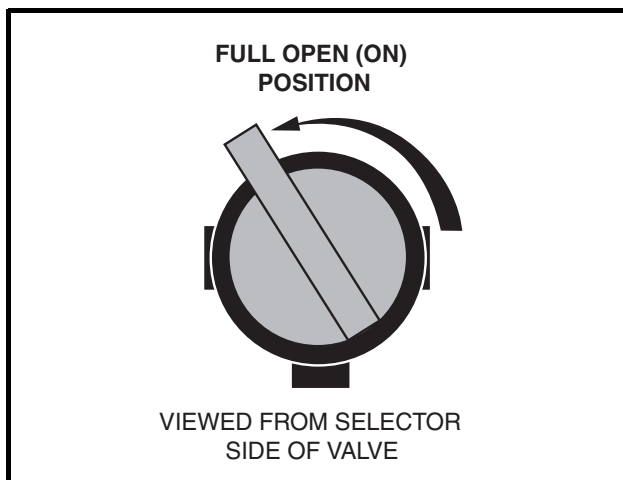
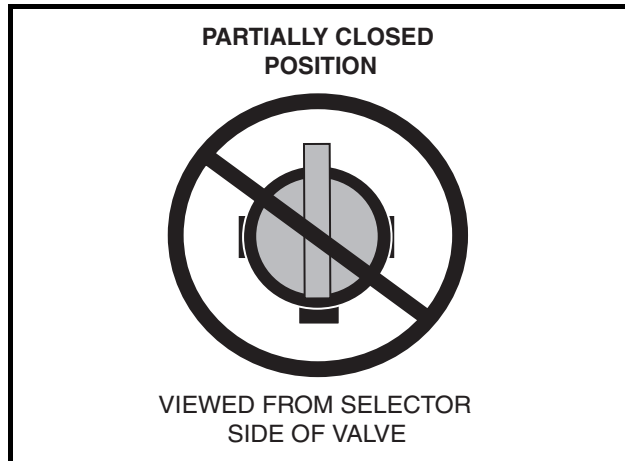

Figure 3-4 Fuel Valve – Open
Figure 3-6 Fuel Valve – Partially Closed
5. Completely open fuel shut-off valve (**Figure 3-4, Page 3-3**). A partially closed fuel valve (**Figure 3-6, Page 3-4**) combined with the use of the choke, can result in a fouled spark plug and engine failure.